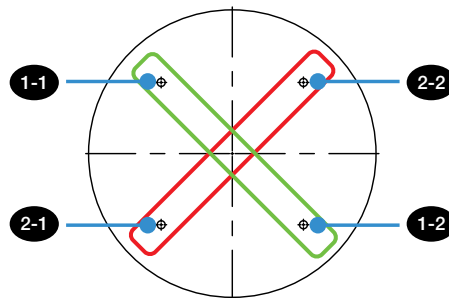
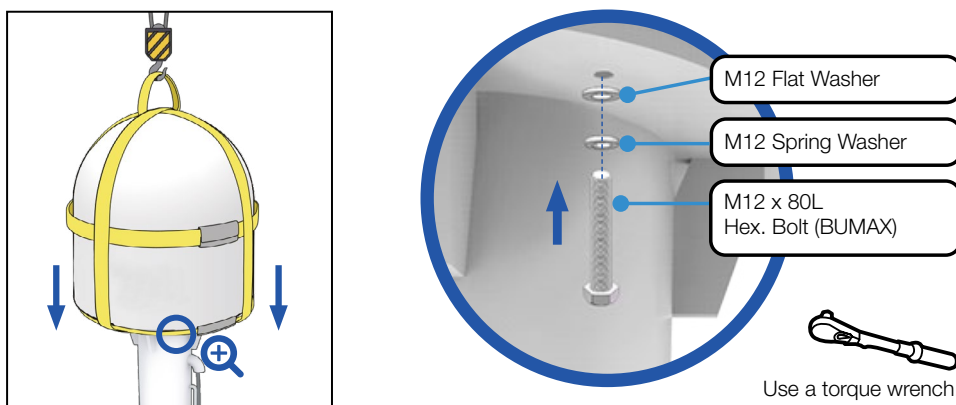

Figure 15: Installing Sequence of Bolts
Figure 16: Installing Bolts for Antenna-Mast Assembly
3. Apply Loctite #263 to the bolt threads, insert the bolts and washers from under the mast into the built-in nuts on the bottom of the radome (see Figure 16), and then lightly tighten them by hand. Use a crisscross sequence as shown in Figure 15.